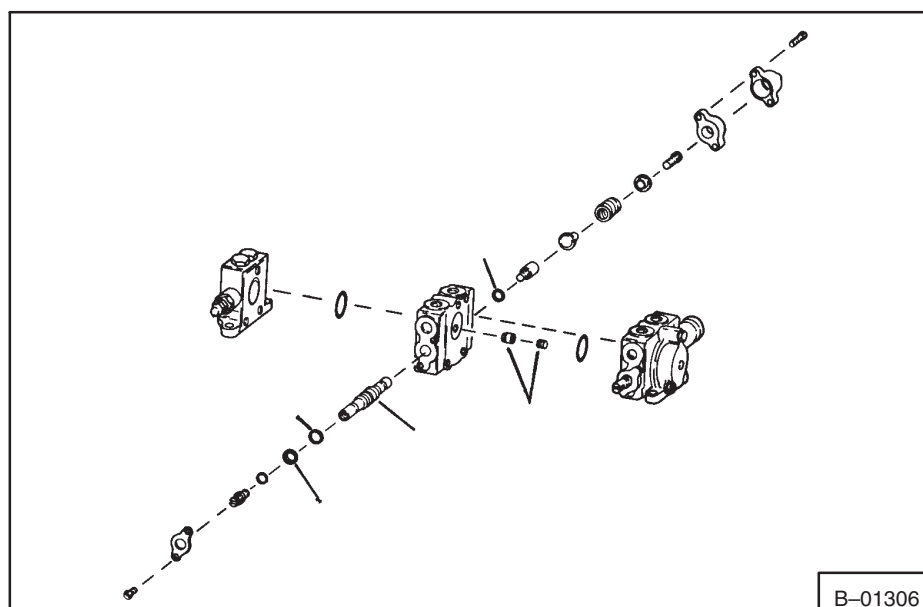

Fig. 81 Valve Section Disassembly (Husco)
1. Remove the seal plate from the linkage end of spool (Fig. 81).